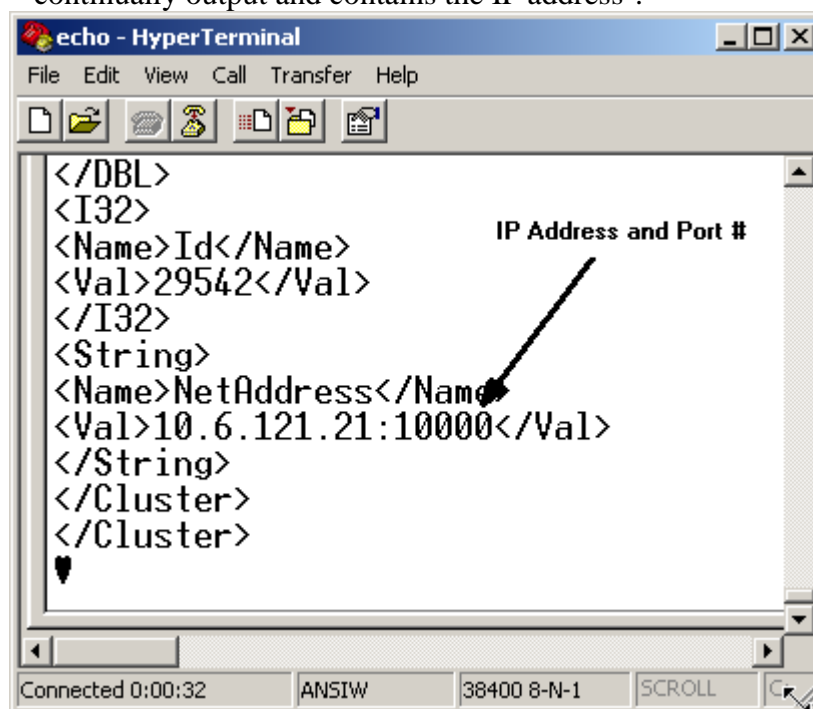

Figure 96 – Echo® Receiver IP determination using the serial port
- In the event the Discovery utility fails, the supplied serial cable can be connected to the unused power/serial connector on the receiver and the other end to a laptop. Running a terminal emulation program such as HyperTerminal (Figure 96) with the serial parameters set to; Baud=38400, 8 data bits, no parity and 1 stop bit. This will show a data stream that is continually output and contains the IP address³.